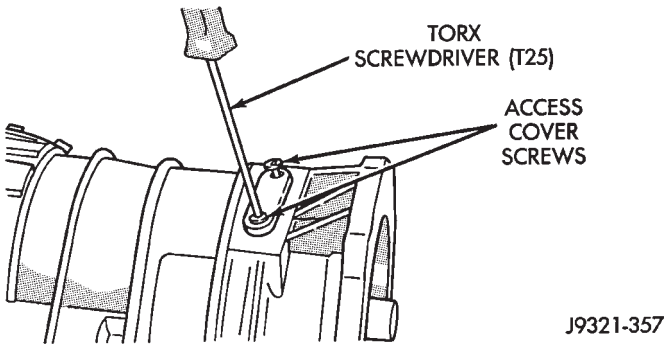

Fig. 62 Installing Locating Ring Access Cover And Gasket
- (10) Install locating ring access cover and gasket in overdrive unit case (Fig. 62).